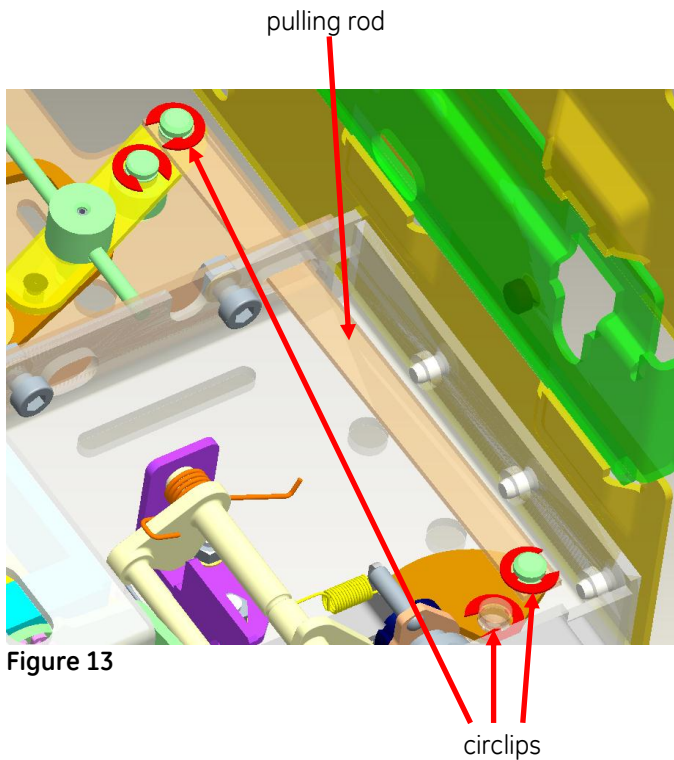

Figure 13
- Using pulling rod, connect lever from the base plate with the lever from the rear lock bracket. Secure pulling rod and front lever with circlips (as shown on Fig. 13).